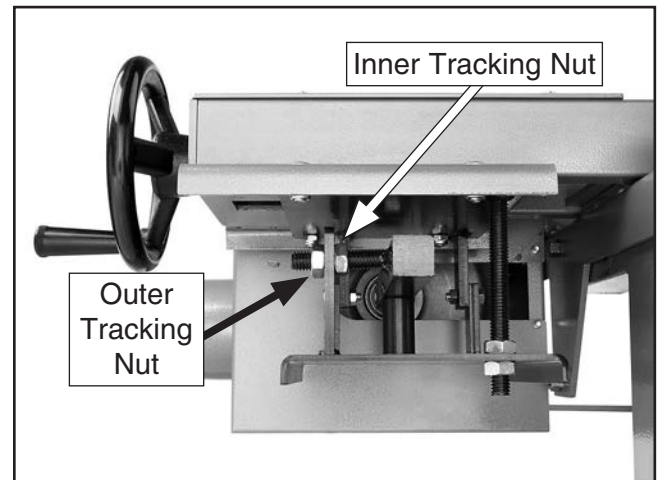

Figure 62. Belt tracking adjustment.
- Loosen the outer belt tracking nut (**Figure 62**)